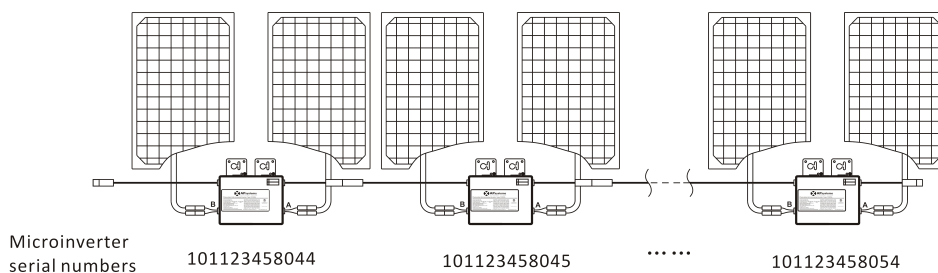

Figure 11
- Each APsystems Microinverter has removable serial number labels. Peel labels off, affix one to the respective location on the APsystems installation map, and fill in A,B in the label below (as Figure12) according to the layout on the roof (as Figure 11). Then affix another label to the PV module frame which is easy to see. The warranty cards can obtain from the appendix of this manual or APsystems website: [www.APsystems.com](http://www.APsystems.com)